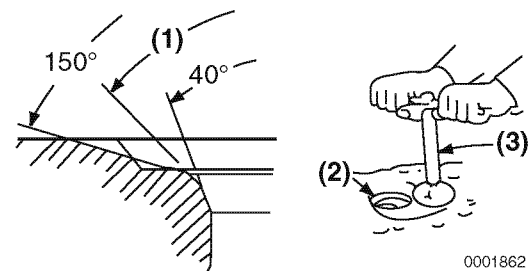

Figure 6-61
Light cutting can be performed by the use of a hand-operated cutter (**Figure 6-61**).
Valve seat diameter can be adjusted by top-grinding with a 150° stone to make the seat diameter smaller, and bottom-grinding using a 40° stone to make the seat diameter larger. Once the seat location has been corrected, grind and lap the seat angle (**Figure 6-61, (1)**) to specification. See *Cylinder Head on page 6-4 for specifications*.